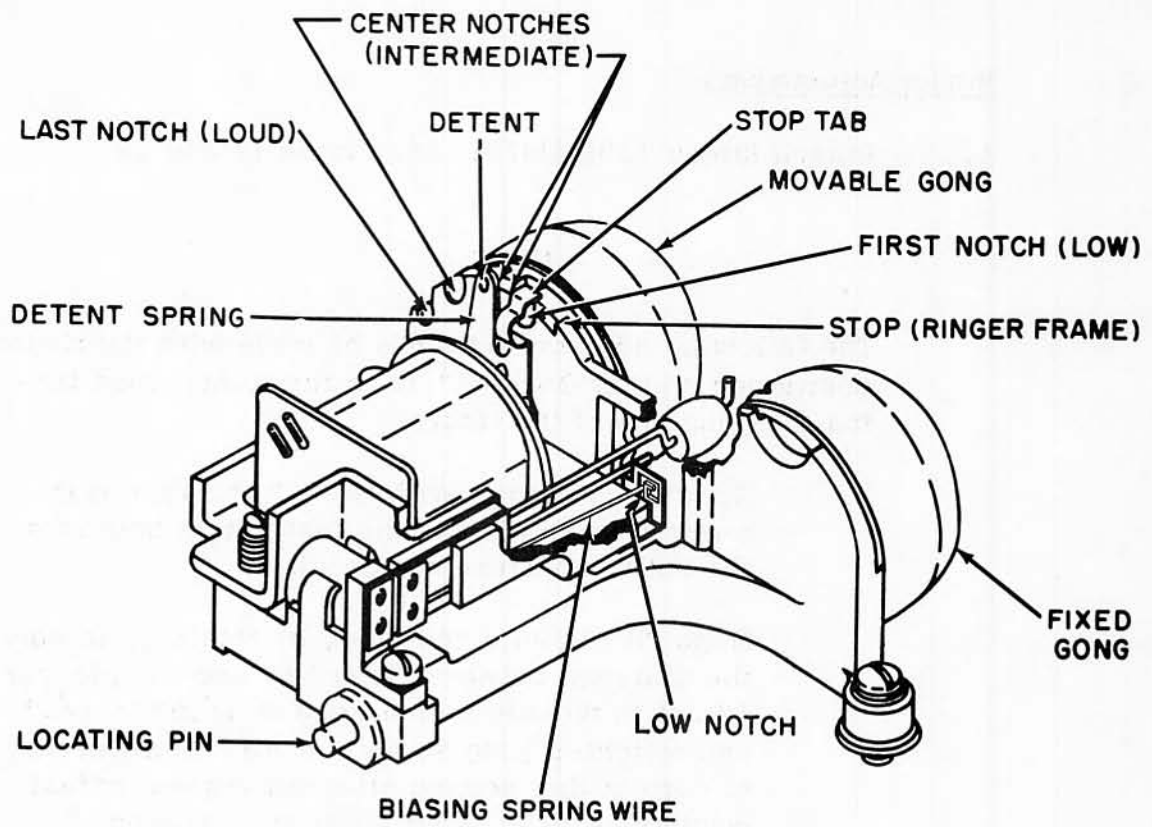

FIGURE 14
1. Biased Ringer 130(BA)470. See Figure 14 and 15